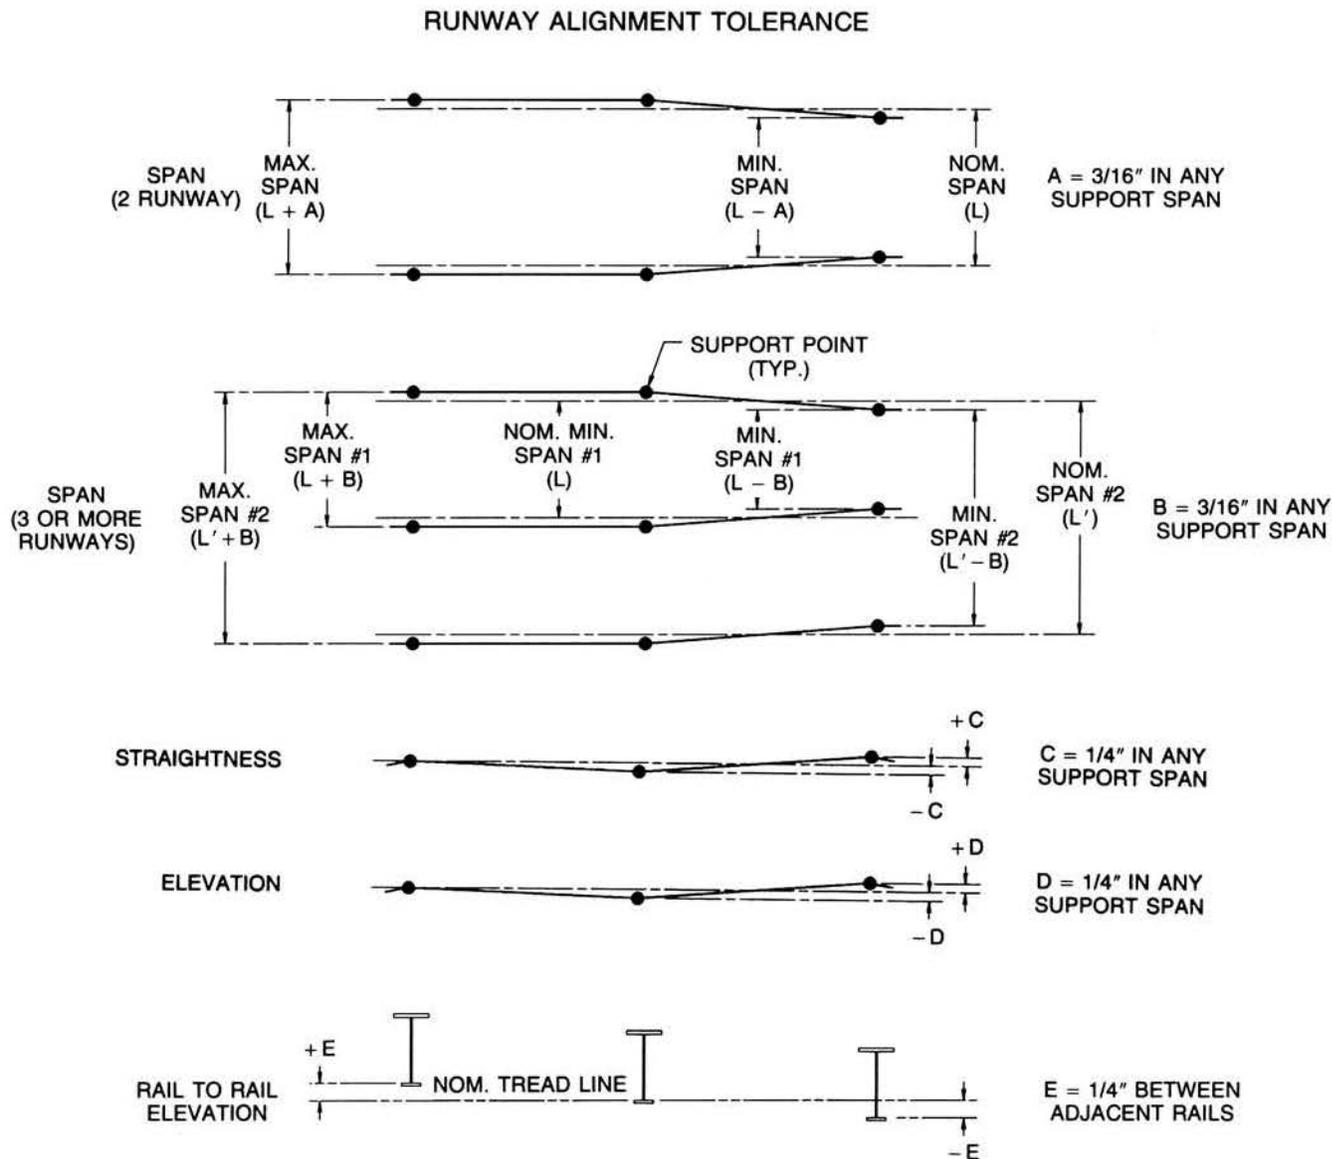

FIGURE 38
- Track straightness and elevation shall not exceed the tolerances shown in Figure 38.
- Runway track straightness and elevation, and runway span center-to-center distance shall not exceed the tolerances shown in Figure 38.